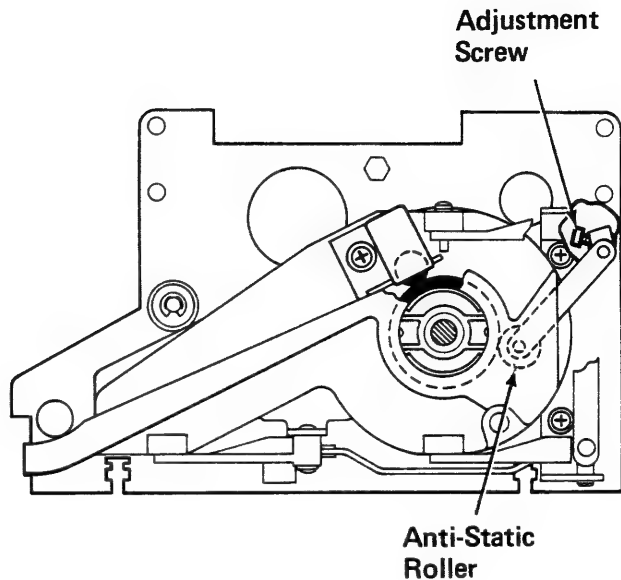

Figure 3-13A
5. Loosen the Adjustment Screw (Figure 3-13A).